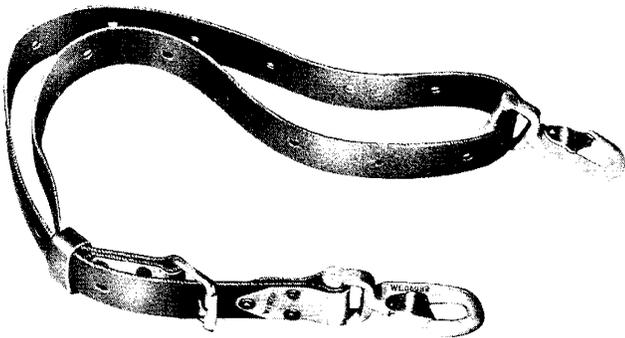

Fig. 5—D Safety Strap
2.09 The D Strap (Fig. 5) is available in one size only. It is adjustable in length in increments of 1-1/2" from 36" to 61-1/2".